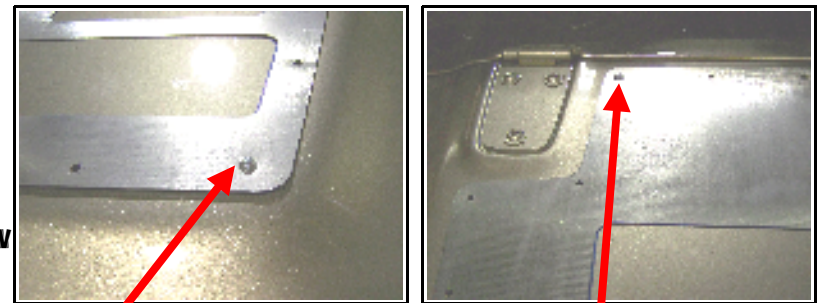

Figure 2
Step 6 - Using 1/4" Bit, drill one hole through the template and hood at either corner, as shown in (Figure 2). Install and tighten the supplied 10-32 screw and nut. Then drill a second hole in the opposite corner of Template and install and tighten supplied 10-32 screw and nut. This will ensure template stays in place while drilling and cutting.